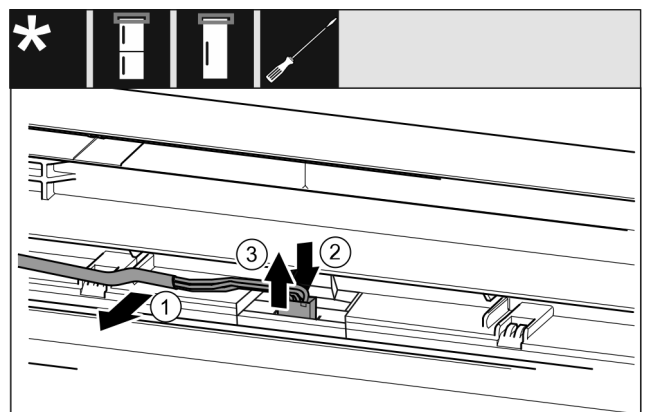

Fig. 15 Fridge/freezer combinations / freezers / refrigerators
- ▶ Release the cable Fig. 15 (1) from the guide in the door carefully.
- ▶ Push the tab Fig. 15 (2) behind the plug backwards.
- ▶ Pull the plug Fig. 15 (3) out upwards carefully.